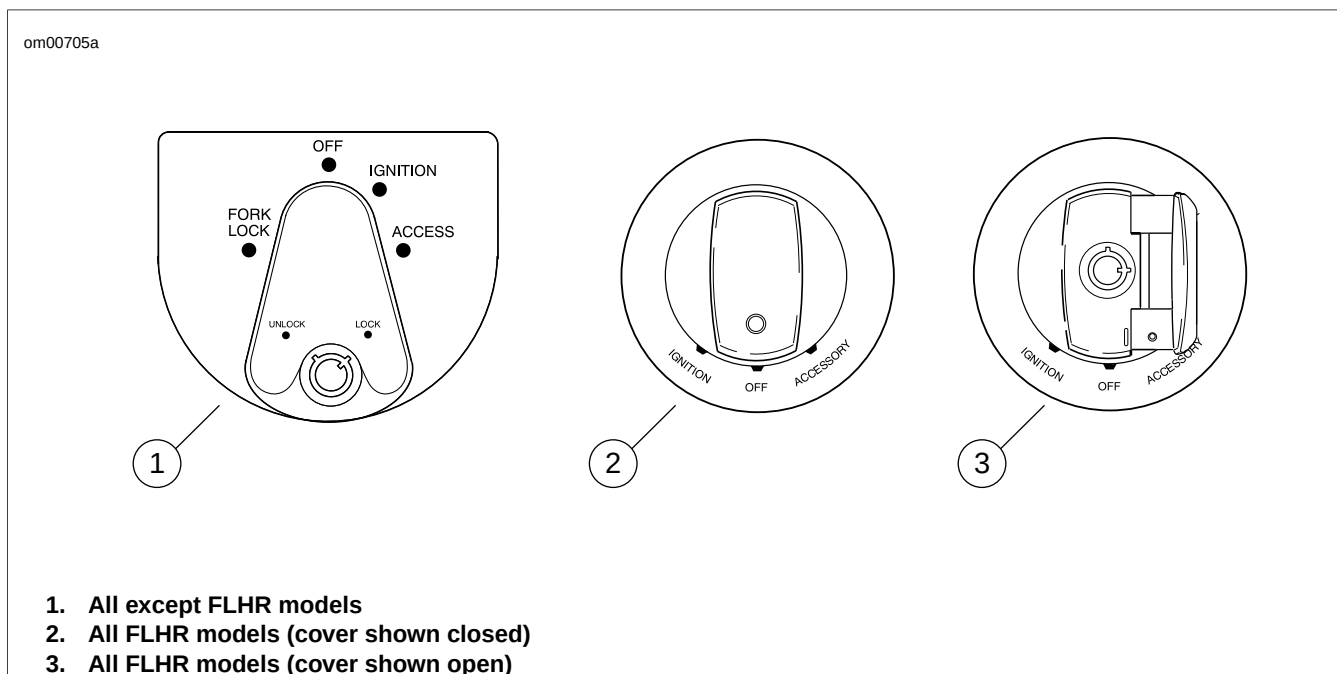

Figure 4-4. Ignition Switch: Touring Models
- See Figure 4-4. The Ignition Switch is turned to IGNITION and the Engine Stop Switch is set to RUN (although the engine is **not** running).